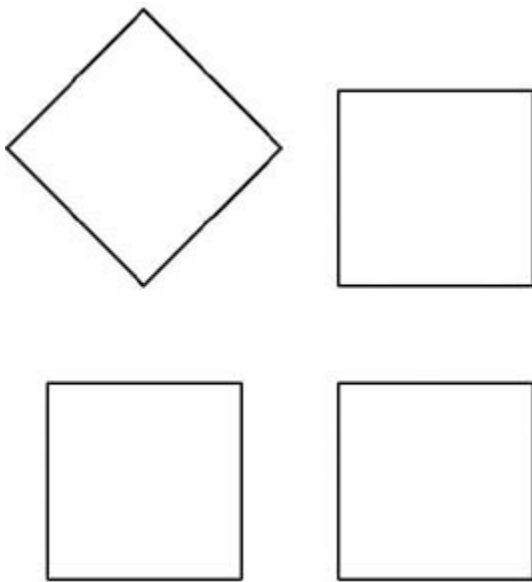

Figure 4-11
- 8 Press the down arrow and choose **Close** from the list of options. AutoCAD closes the square and ends the **LINE** command. Your drawing should now resemble Figure 4-11.